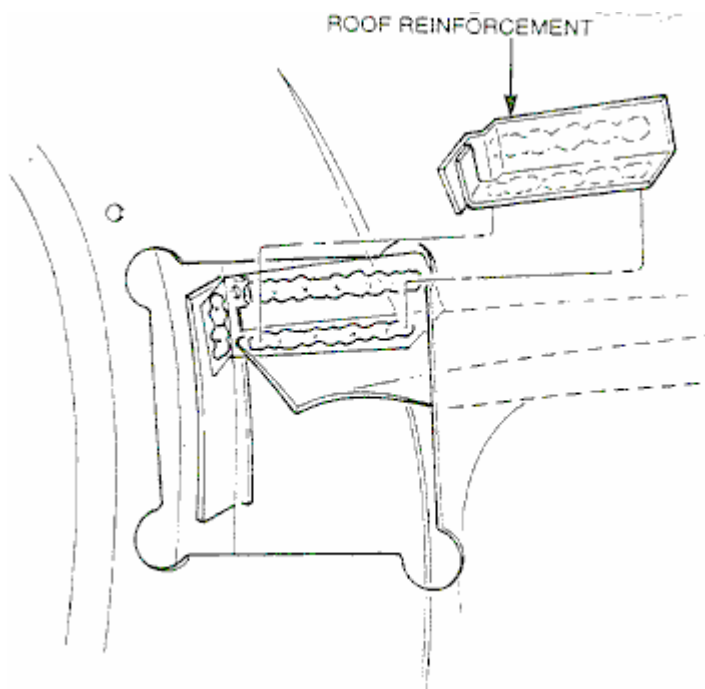

FIGURE 11A
27. Apply the two-part epoxy to the roof panel and the roof panel reinforcement, and place into position (refer to Figures 11A and 11B). The reinforcement should rest in place on top of the drip molding and should not require clamping.